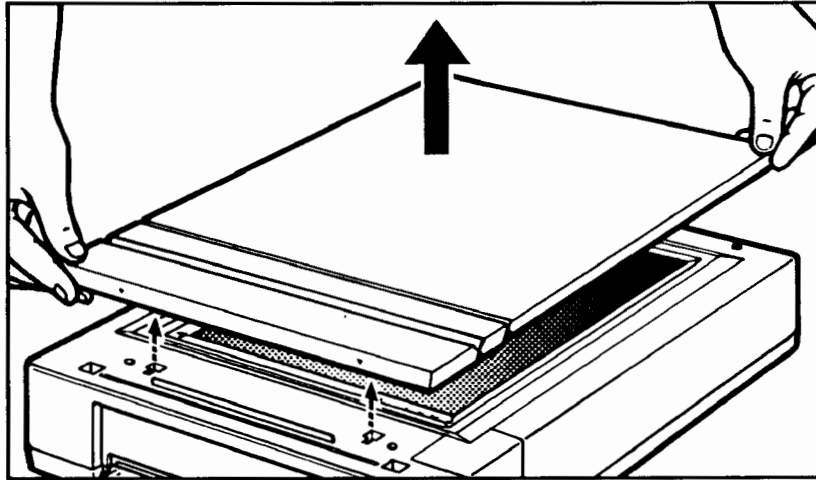

Figure 12. Removing the Copyboard Cover
3. Lift and remove the copyboard cover. See figure 12